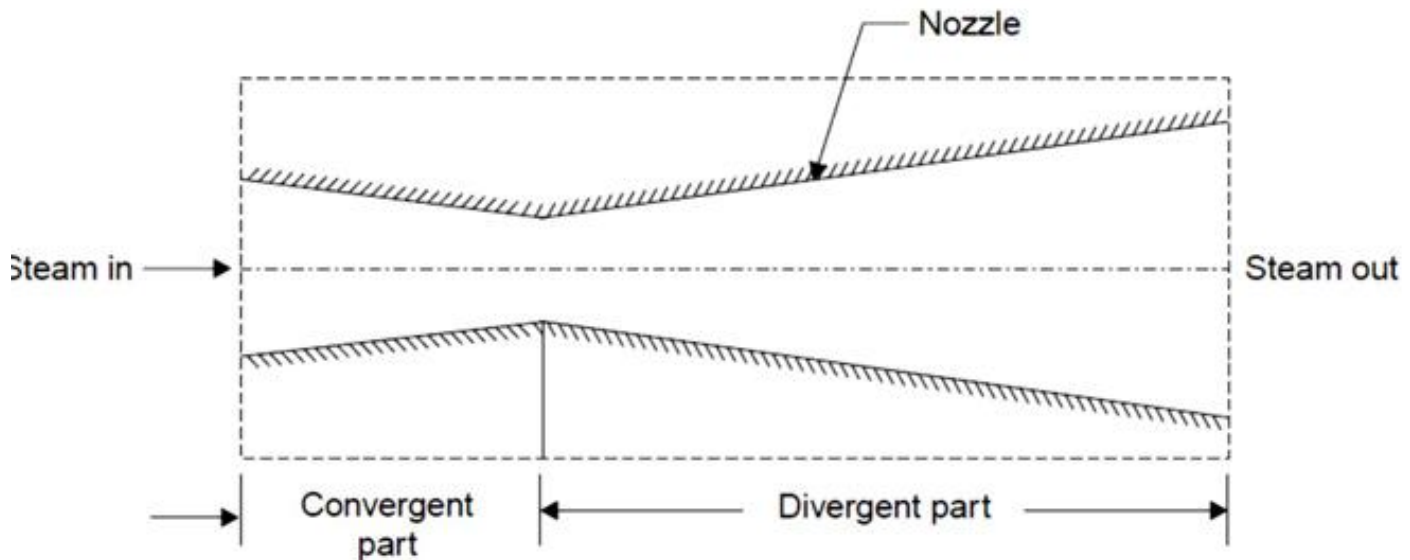

Fig. 2.5 A convergent-divergent nozzle
- Nozzles and diffusers are commonly utilized in jet engines, rockets, spacecraft, and even garden hoses. Fig. 2.5 shows a commonly used convergent-divergent nozzle.